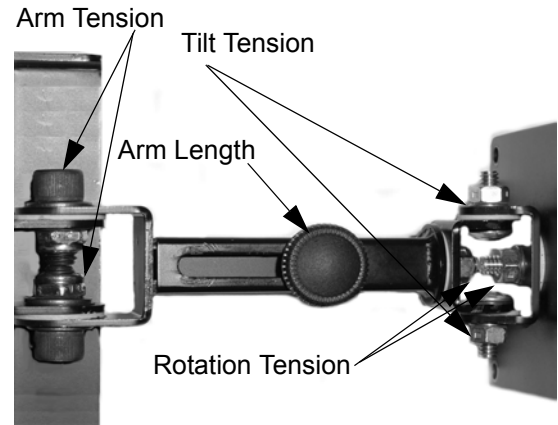
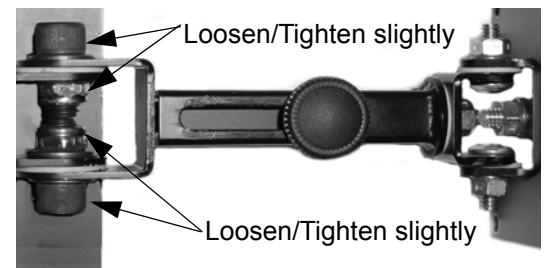

Figure 2. Adjustment Locations
Figure 3. Arm Tension Bolts
1. Using a 3/8" Allen wrench and a 9/16" open end wrench, slightly tighten or loosen two nuts, one on each side, equally (see Figure 2 and Figure 3).